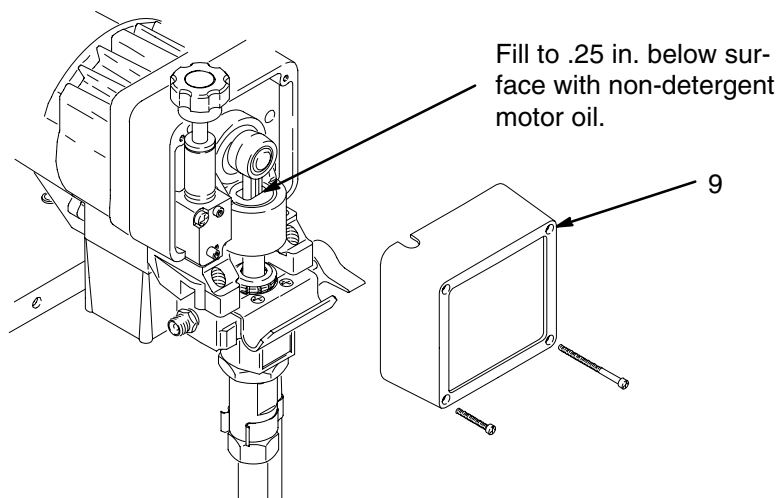

Fig. 4
**Monthly:** Remove the front cover (9) and fill the cavity in the connecting rod with non-detergent motor oil 1/4 in. below the surface. See Fig. 4.